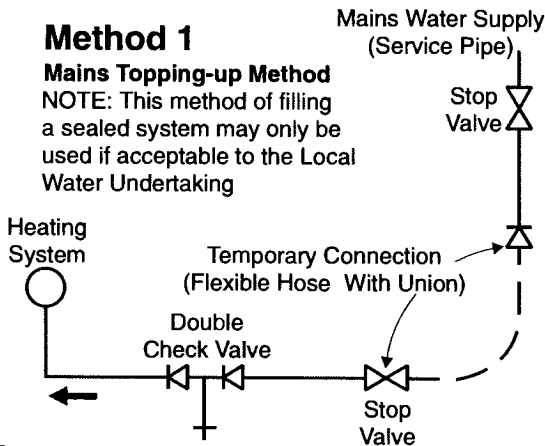

Fig. 3
It is recommended that 35 mm pipework is used for the flow and return to within approximately 300 mm of the boiler - See Figs. 3 and 4.
- ii) where access to a make-up vessel would be difficult by using the mains top up method or a remote automatic pressurisation and make-up unit as shown in Figs. 3 & 4.